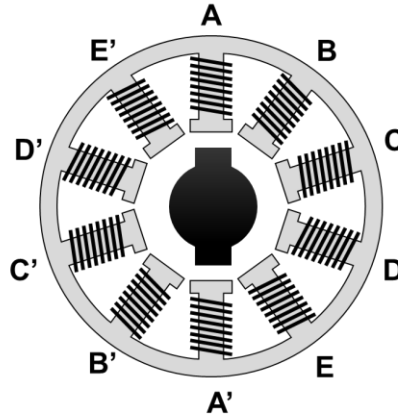

Figure Q2A – 10-pole reluctance motor
2. Figure Q2A presents simplified diagram of a 10-pole reluctance motor. Each phase comprises a pair of poles (e.g., A-A' etc.). These phases need to be powered consecutively (A→E) in the order to rotate the shaft in **clockwise direction**. A circuit using Flip-Flops must be designed to drive this motor: